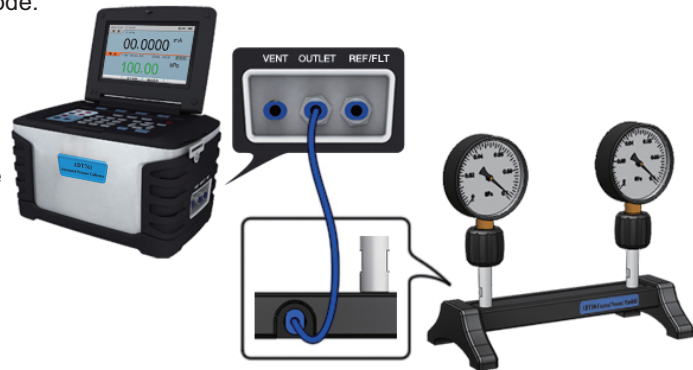

Figure 3-16 Calibrating pressure gauges
- ◆ Complete the pneumatic connection as shown in Figure 3-16.